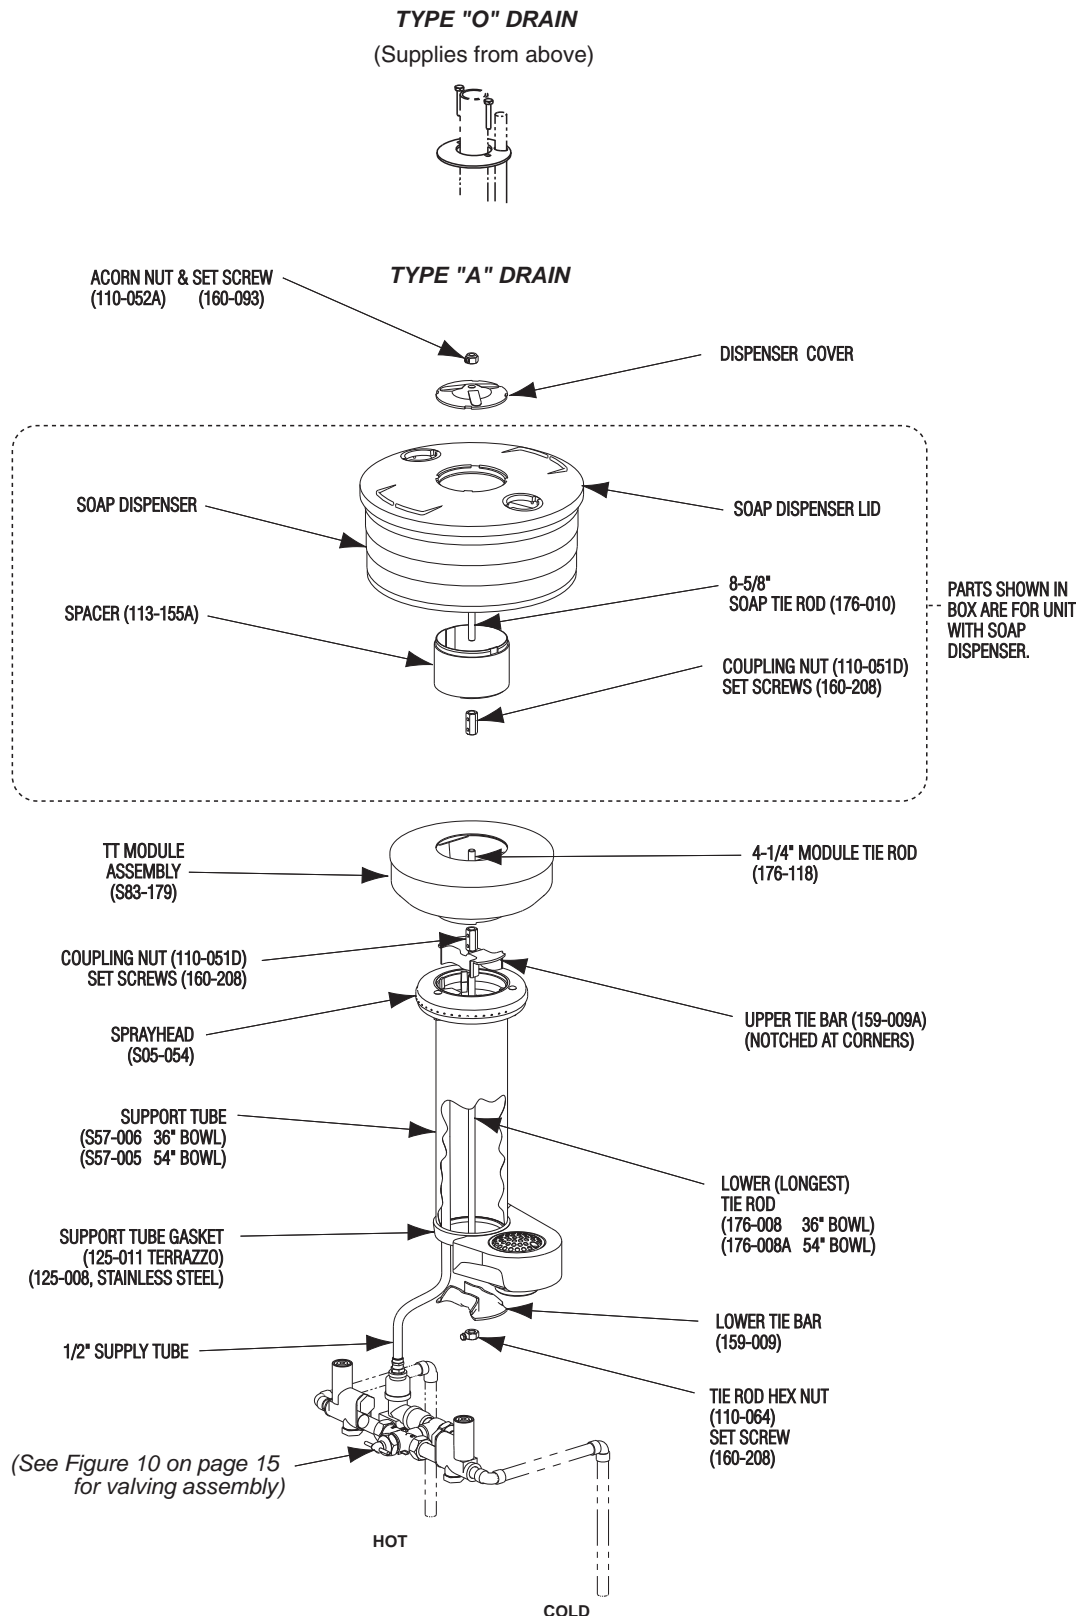

Figure 8
1. Install hemmed end (not sharp end) of support tube with gasket onto bowl as shown in Figure 8 on page 12.
3. Place sprayhead with 1/2" tubing onto support tube as shown in Figure 8 on page 12. Run tubing down through support tube.
4. Assemble the lower tie rod (the longer threaded rod), upper tie bar (notched at corners), lower tie bar, tie rod nut, and coupling nut, then attach the 4-1/4" tie rod to coupling nut as shown in Figure 8.
- 7a. **FOR UNITS WITH SOAP OPTION:** Install the spacer, soap dispenser and cover using the coupling nut, soap tie rod (8-5/8" long) and second coupling nut as shown (see Figure 8). Secure with acorn nut and socket head set screw.